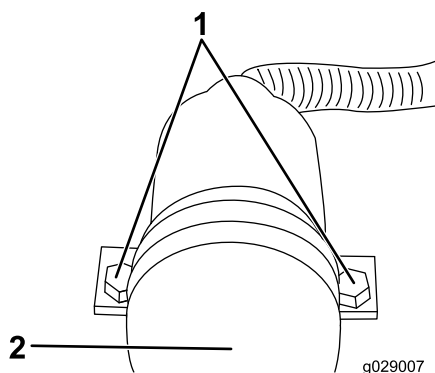

Figure 7
- Remove the 2 bolts and nuts securing the fuel-stop solenoid to its mount (Figure 7).